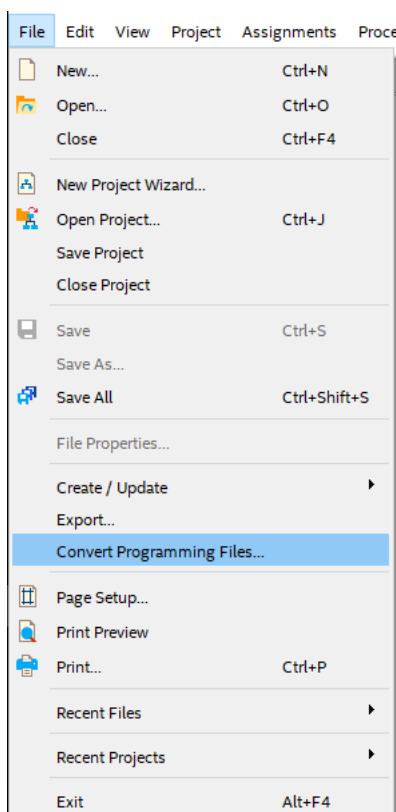

Figure 37 : Convet Programming Files Menu
1. Open Quartus Prime. Go to File -> Convert Programming Files as shown in the Figure 37.